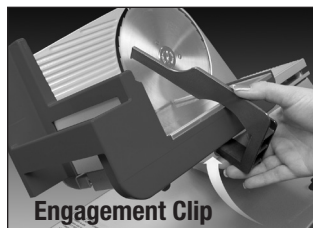

Figure 5.
3. Rotate the long portion of the “L” shaped chute onto the stainless steel top surface of the food carriage until it snaps into position (Figure 5 and 6).